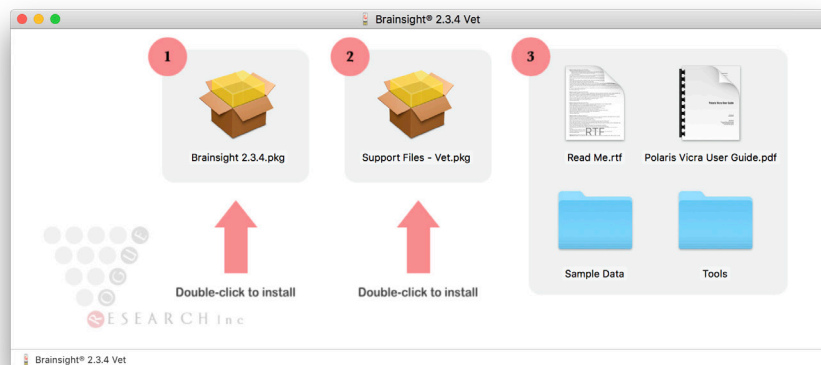

Fig. 3-7
1. Double-click on the installer package to initiate the install process (see Fig. 3-7).